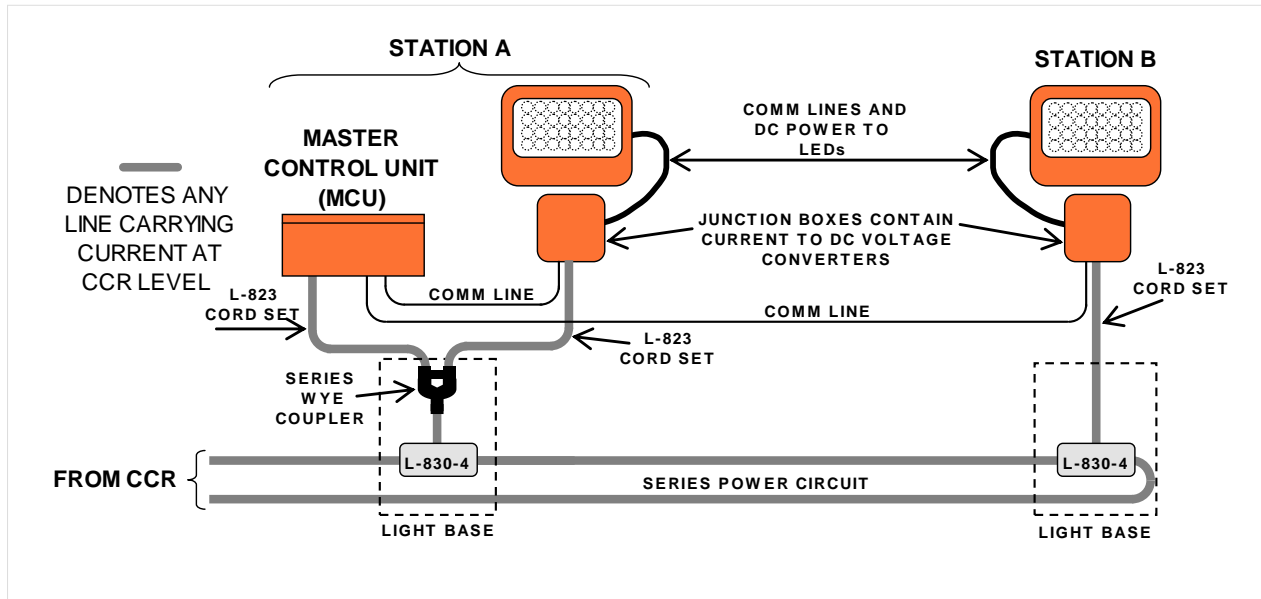

Fig 4
Figure 4 depicts the generalized wiring scheme for a two-emplacement installation in which one of the light units is co-located with the MCU. Each light station is connected to a series lighting circuit through an L-830-4 Isolation Transformer. The MCU and one light unit reside at the A-station. This is considered to be the Master station. The L830-4 transformer at Station A provides power for both the MCU and the co-located Optical Head through the use of a series wye coupler.
- An L-830-4 Isolation Transformer supplies power for both the MCU and the co-located light at Station A. Driving two isolated loads from a single transformer requires a series circuit wye fitting as indicated in Figures 4 & 7.
Twisted, shielded conductors connect the MCU to the Junction Boxes for communications. A five-conductor, color-coded harness carries communications and dc power from each Junction Box to its associated Optical Head as implied earlier in Figure 4. These head harnesses are encased in metallic, weather-tight, flexible conduits that are pre-attached at the Optical Heads. The free end of each head cable must be attached at TB201 in the Junction Box during installation following color-coded information at the terminal block. The head at Station-A is arbitrarily designated as Head #1 in these instructions.